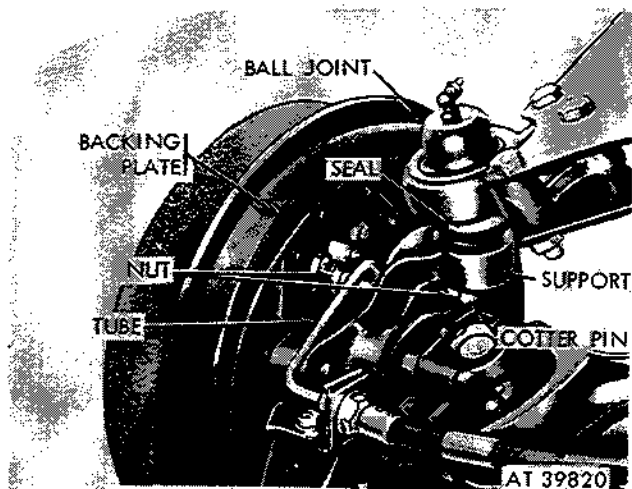

Figure 2-339. Remove upper ball joint from wheel spindle support.
(5) Remove cotter pins and nut securing upper ball joint and seal to wheel spindle support. Remove ball joint (fig. 2-339).